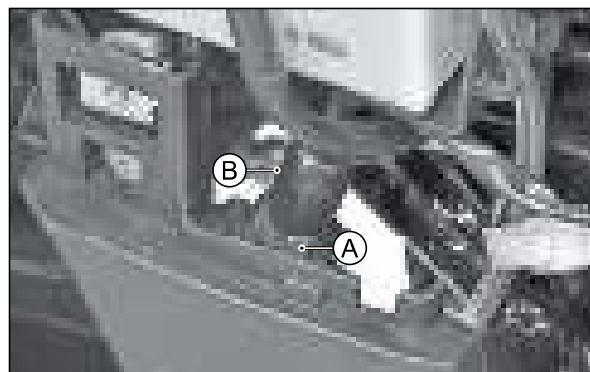

Fig. 5.88
- The switch assembly stop lamp rear can be adjusted by turning the adjuster nut (A) in or out, so that the brake lamp glows when the rear brake is applied. (Fig. 5.88)